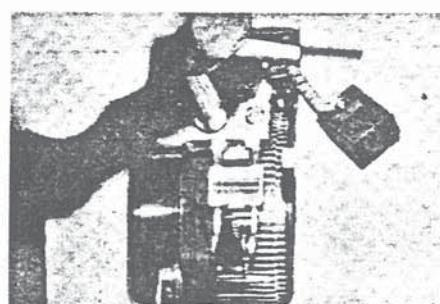

Fig. 8-5
- d) Pull out brushes from the brush holders and remove the main circuit cables from the brush spindles. (Fig. 8-5)